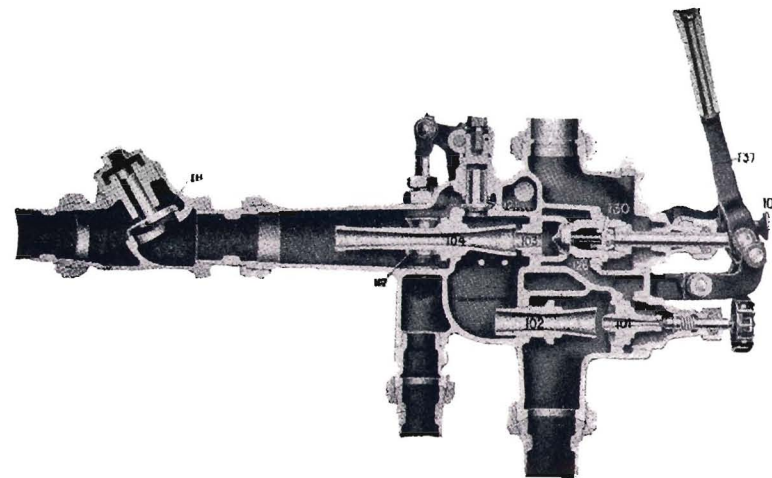

Fig. 7
19. Figure 7 is a sectional representation of a form of injector known as a Hancock Inspirator. The significance of the name *INSPIRATOR*, as distinct from the name *INJECTOR* applied to other makes of similar apparatus, depends on the double-tube feature of the inspirator.
21. Referring to Fig. 7. The inspirator is started by drawing lever 137 back slightly. This admits steam past the lifter steam valve, 130, through the forcer steam valve body, 126, to the steam nozzle, 101. This steam flowing through the lifter tube, 102, creates a vacuum above the water in the supply pipe and causes the water to flow